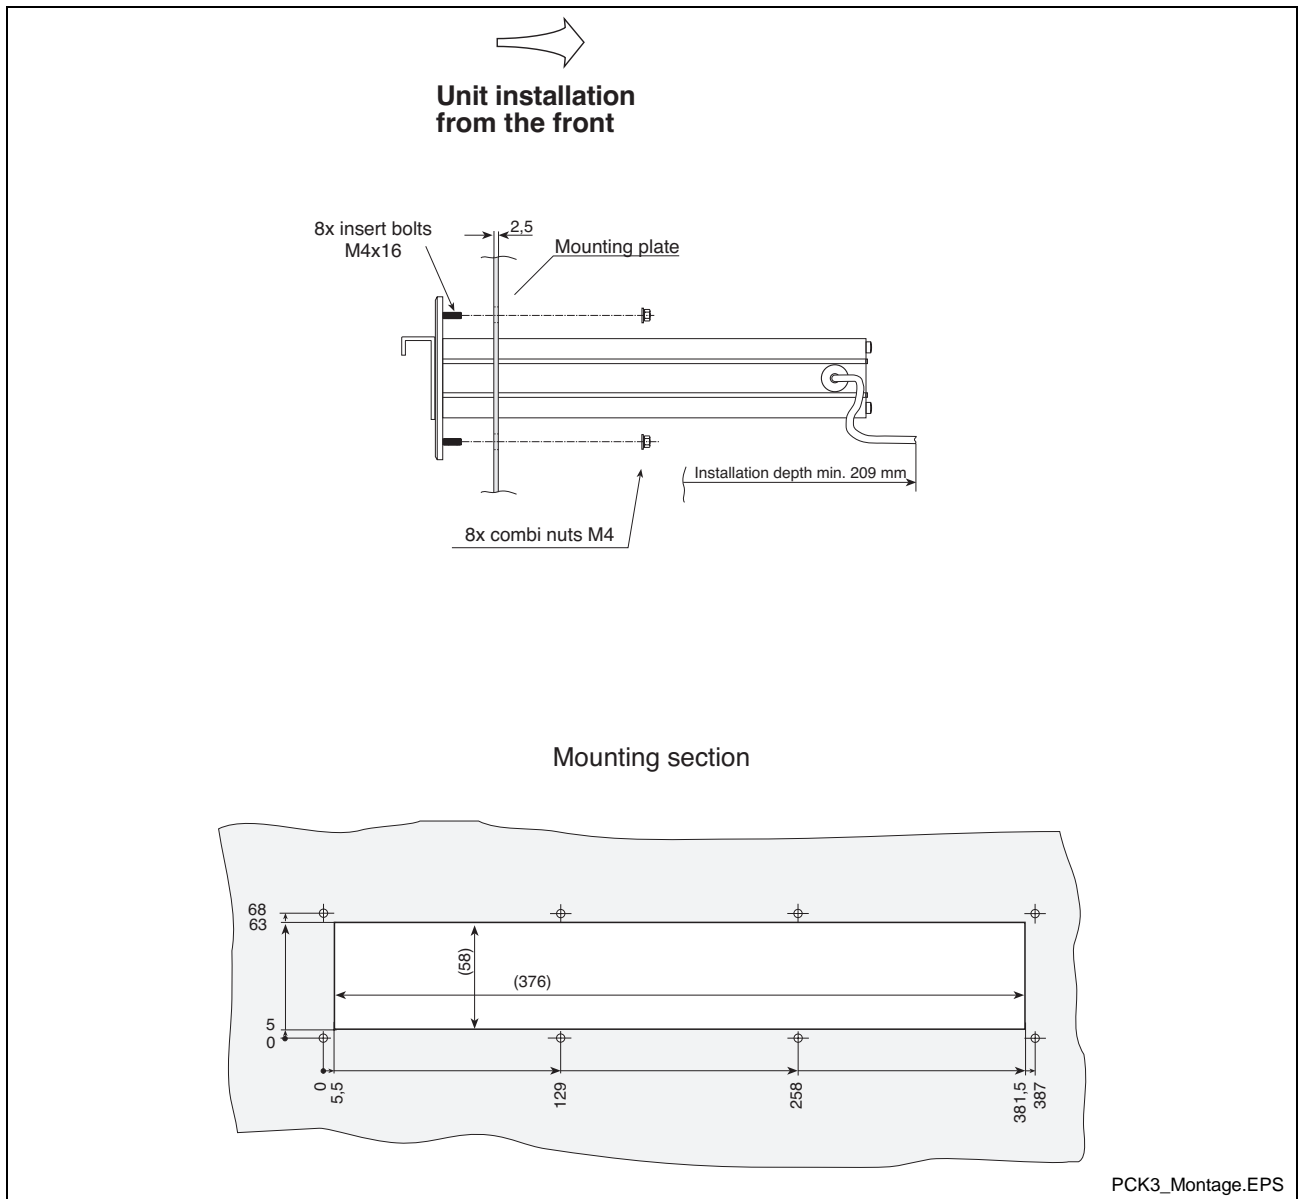

Fig. 7-3: Mounting dimensions PCK 03.3
- Fig. 7-3: Mounting dimensions PCK 03.3 7-3